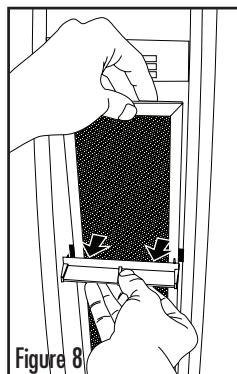

Figure 8
2. Gently remove the PCO filter retainer (red plastic insert) from the housing (see Figure 8).